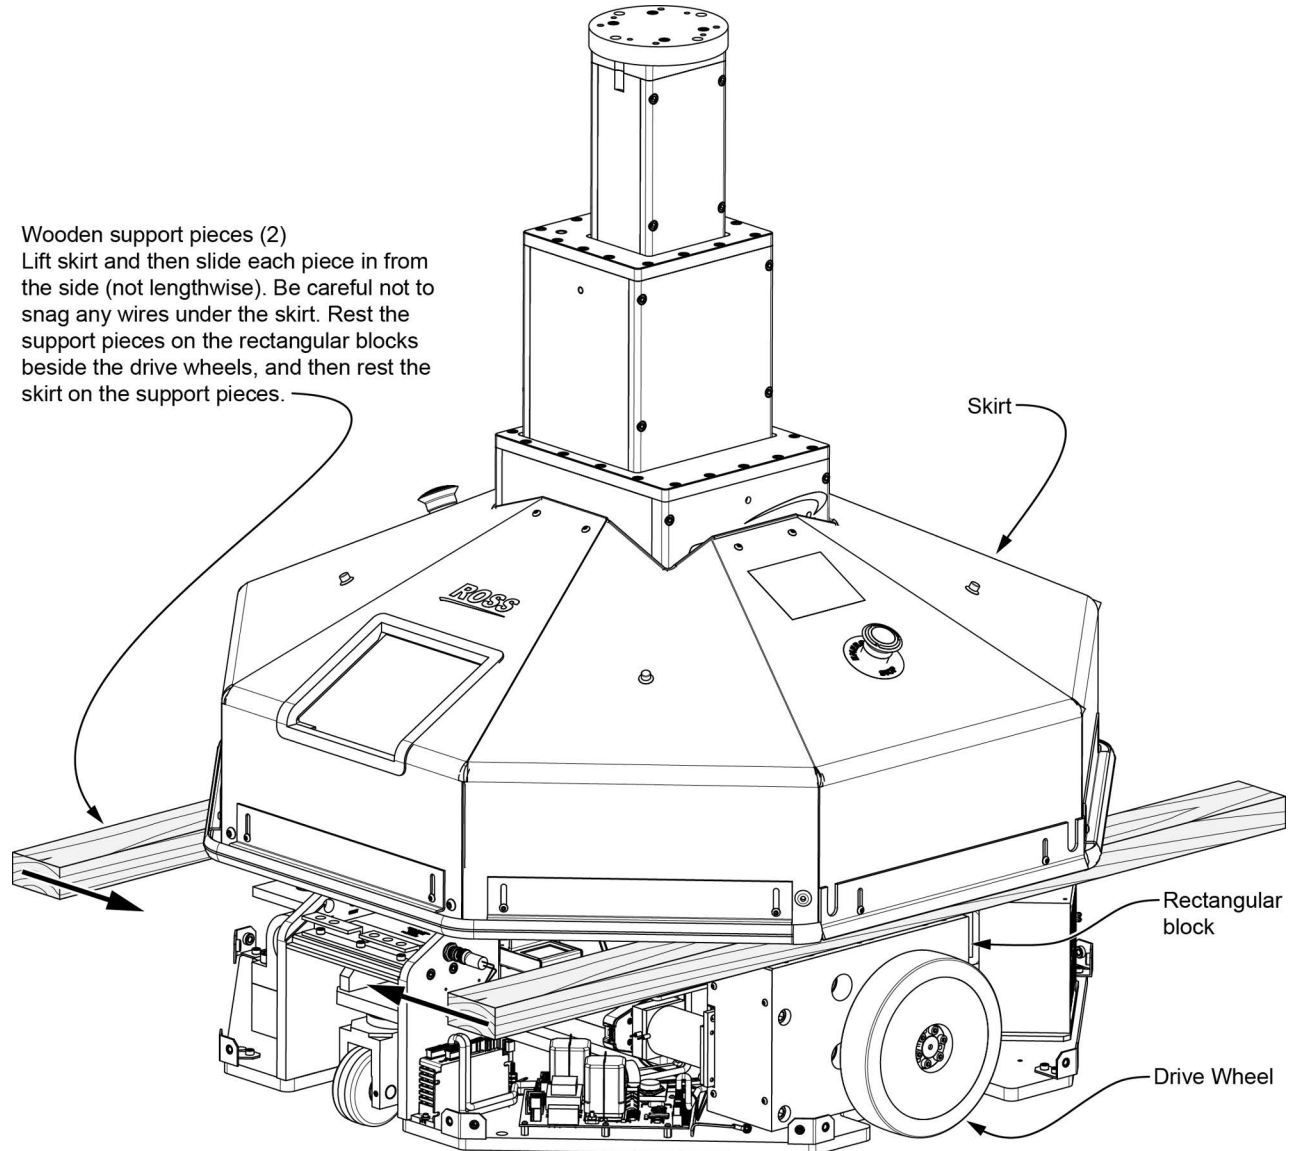

Figure 10 - Lifting and Supporting the Pedestal Skirt (CamBot 700XY pedestal shown)
4. With one person on each side of the pedestal, slowly lift the skirt approximately 10 inches (25cm) and then slide the support pieces under the skirt so they rest on the rectangular blocks beside the large drive wheels. Lower the skirt onto the support pieces, as shown in **Figure 10**.
IMPORTANT: When you insert the support pieces, avoid snagging or pinching any cables under the skirt. Slide the support pieces from the side, not lengthwise (see **Figure 10**).
IMPORTANT: When you remove the support pieces, avoid snagging or pinching any cables under the skirt. Slide the support pieces out from the side, not lengthwise (see **Figure 10**).